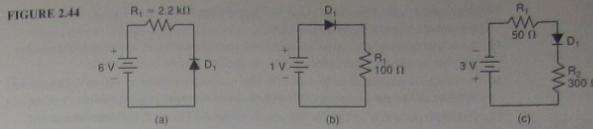

FIGURE 2.44
4. For each of the circuits shown in Figure 2.44, determine the direction (if any) of diode forward current.
6. Using the *ideal diode model*, determine the voltage drop across each of the diodes in Figure 2.44.